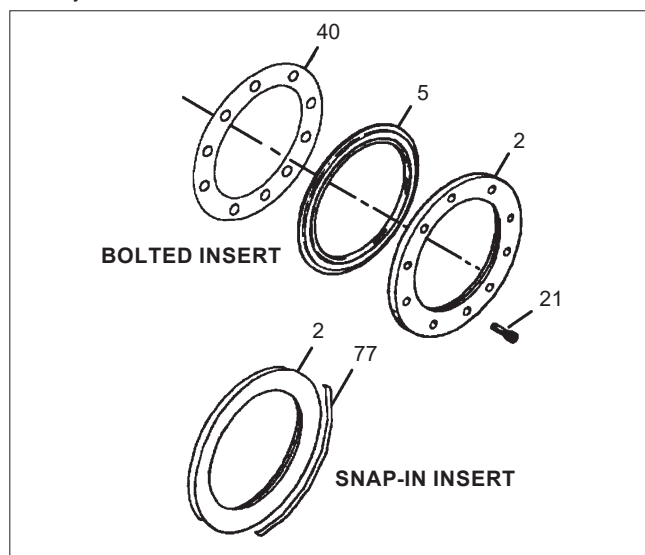

Figure 9.
10. Verify that the disc is in the level position. Install new seat and insert **(See Figure 9 & 10)**. For bolted inserts, install the insert screws, and tighten them uniformly. Torque values are given in **(Table 1)**. Whenever possible, open the valve and retorque the insert screws per **(Table 2)**. Take care not to damage the sealing edge of the disc. Close the valve. For snap-in inserts, place the retaining spring into the groove in the body, opposite the positive stop **(See Figure 8)**. The tips of the spring should be toward the insert side of the valve. Lightly tap one end of the spring into the body groove. Be sure the spring is positioned snugly into the groove. Lightly tap the other end of the spring into the groove. Make sure the tips of the spring are embedded into the body groove to prevent spring movement. With the seat assembled into the insert, and the disc slightly open, install the assembly into the body, such that it is angled into the body to engage the retaining spring. Once the retaining spring is engaged, "pop" the opposite side of the insert into the body by lightly tapping the insert with a block of wood and a hammer.